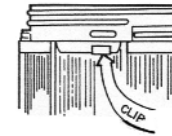

FIGURE 3
1. VMVF Champ® series luminaire globe cat. no. G24 use an integral guard cat. no. P21. Thread segments of both guard and globe are of unequal length (keyed) to insure proper globe and guard thread match upon assembly. The clip that is attached to the guard helps to secure the guard to the globe. See figure 3.